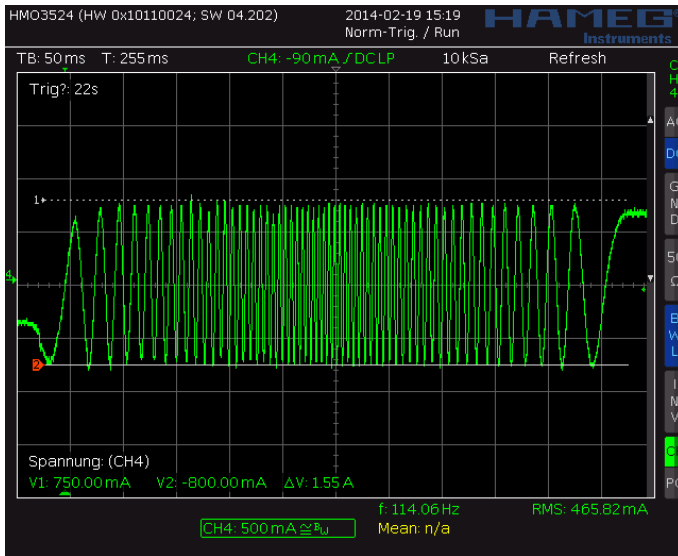
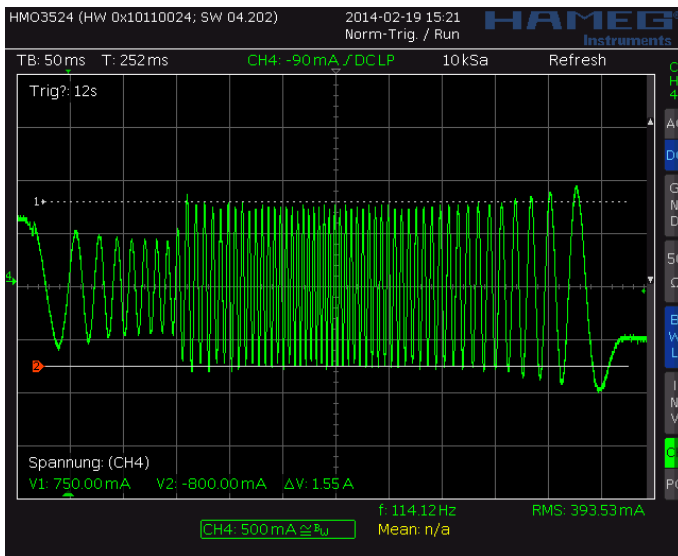
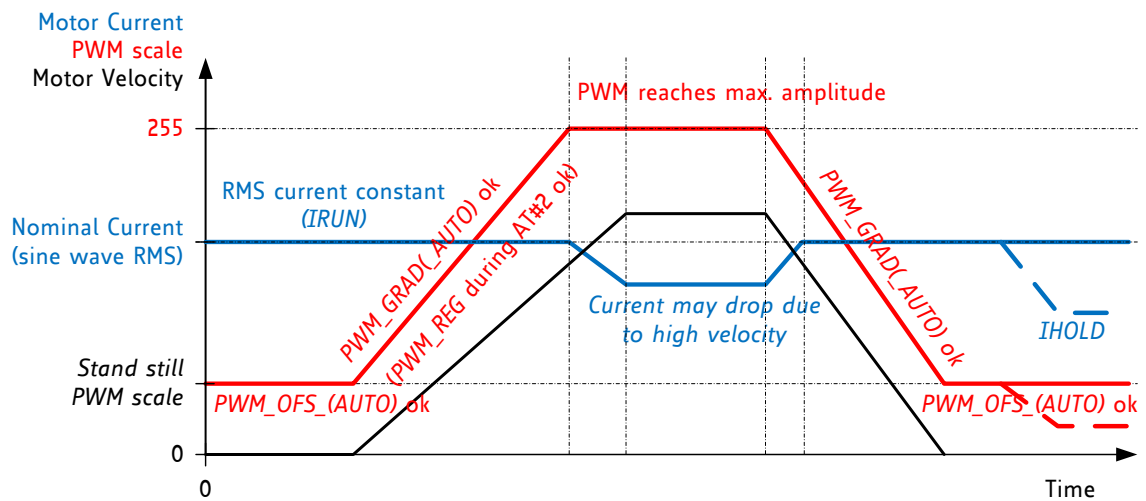

Figure 6.3 Scope shot: good setting for PWM_REG
Figure 6.4 Scope shot: too small setting for PWM_REG during AT#2
Figure 6.5 Successfully determined PWM_GRAD(AUTO) and PWM_OFS(AUTO)
In StealthChop voltage PWM mode, the autoscaling function ($pwm_autoscale = 1$, $pwm_auto_grad = 1$) regulates the motor current to the desired current setting. Automatic scaling is used as part of the automatic tuning process (AT), and for subsequent tracking of changes within the motor parameters. The driver measures the motor current during the chopper on time and uses a proportional regulator to regulate PWM_SCALE_AUTO in order match the motor current to the target current. PWM_REG is the proportionality coefficient for this regulator. Basically, the proportionality coefficient should be as small as possible in order to get a stable and soft regulation behavior, but it must be large enough to allow the driver to quickly react to changes caused by variation of the motor target current (e.g. change of VREF). During initial tuning step AT#2, PWM_REG also compensates for the change of motor velocity. Therefore, a high acceleration during AT#2 will require a higher setting of PWM_REG . With careful selection of homing velocity and acceleration, a minimum setting of the regulation gradient often is sufficient ($PWM_REG=1$). PWM_REG setting should be optimized for the fastest required acceleration and deceleration ramp (compare Figure 6.3 and Figure 6.4). The quality of the setting PWM_REG in phase AT#2 and the finished automatic tuning procedure (or non-automatic settings for PWM_OFS and PWM_GRAD) can be examined when monitoring motor current during an acceleration phase Figure 6.5.